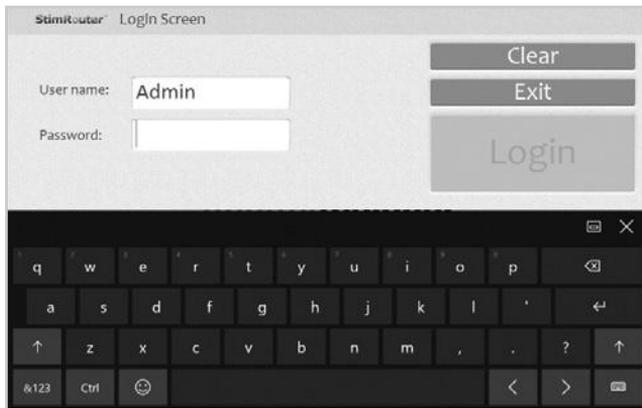

Figure 8-3: The StimRouter software login screen
2. If the login screen does not open automatically, then, press “Start” and then “StimRouter” to open the StimRouter software. Wait for the login screen to load. See Figure 8-3.